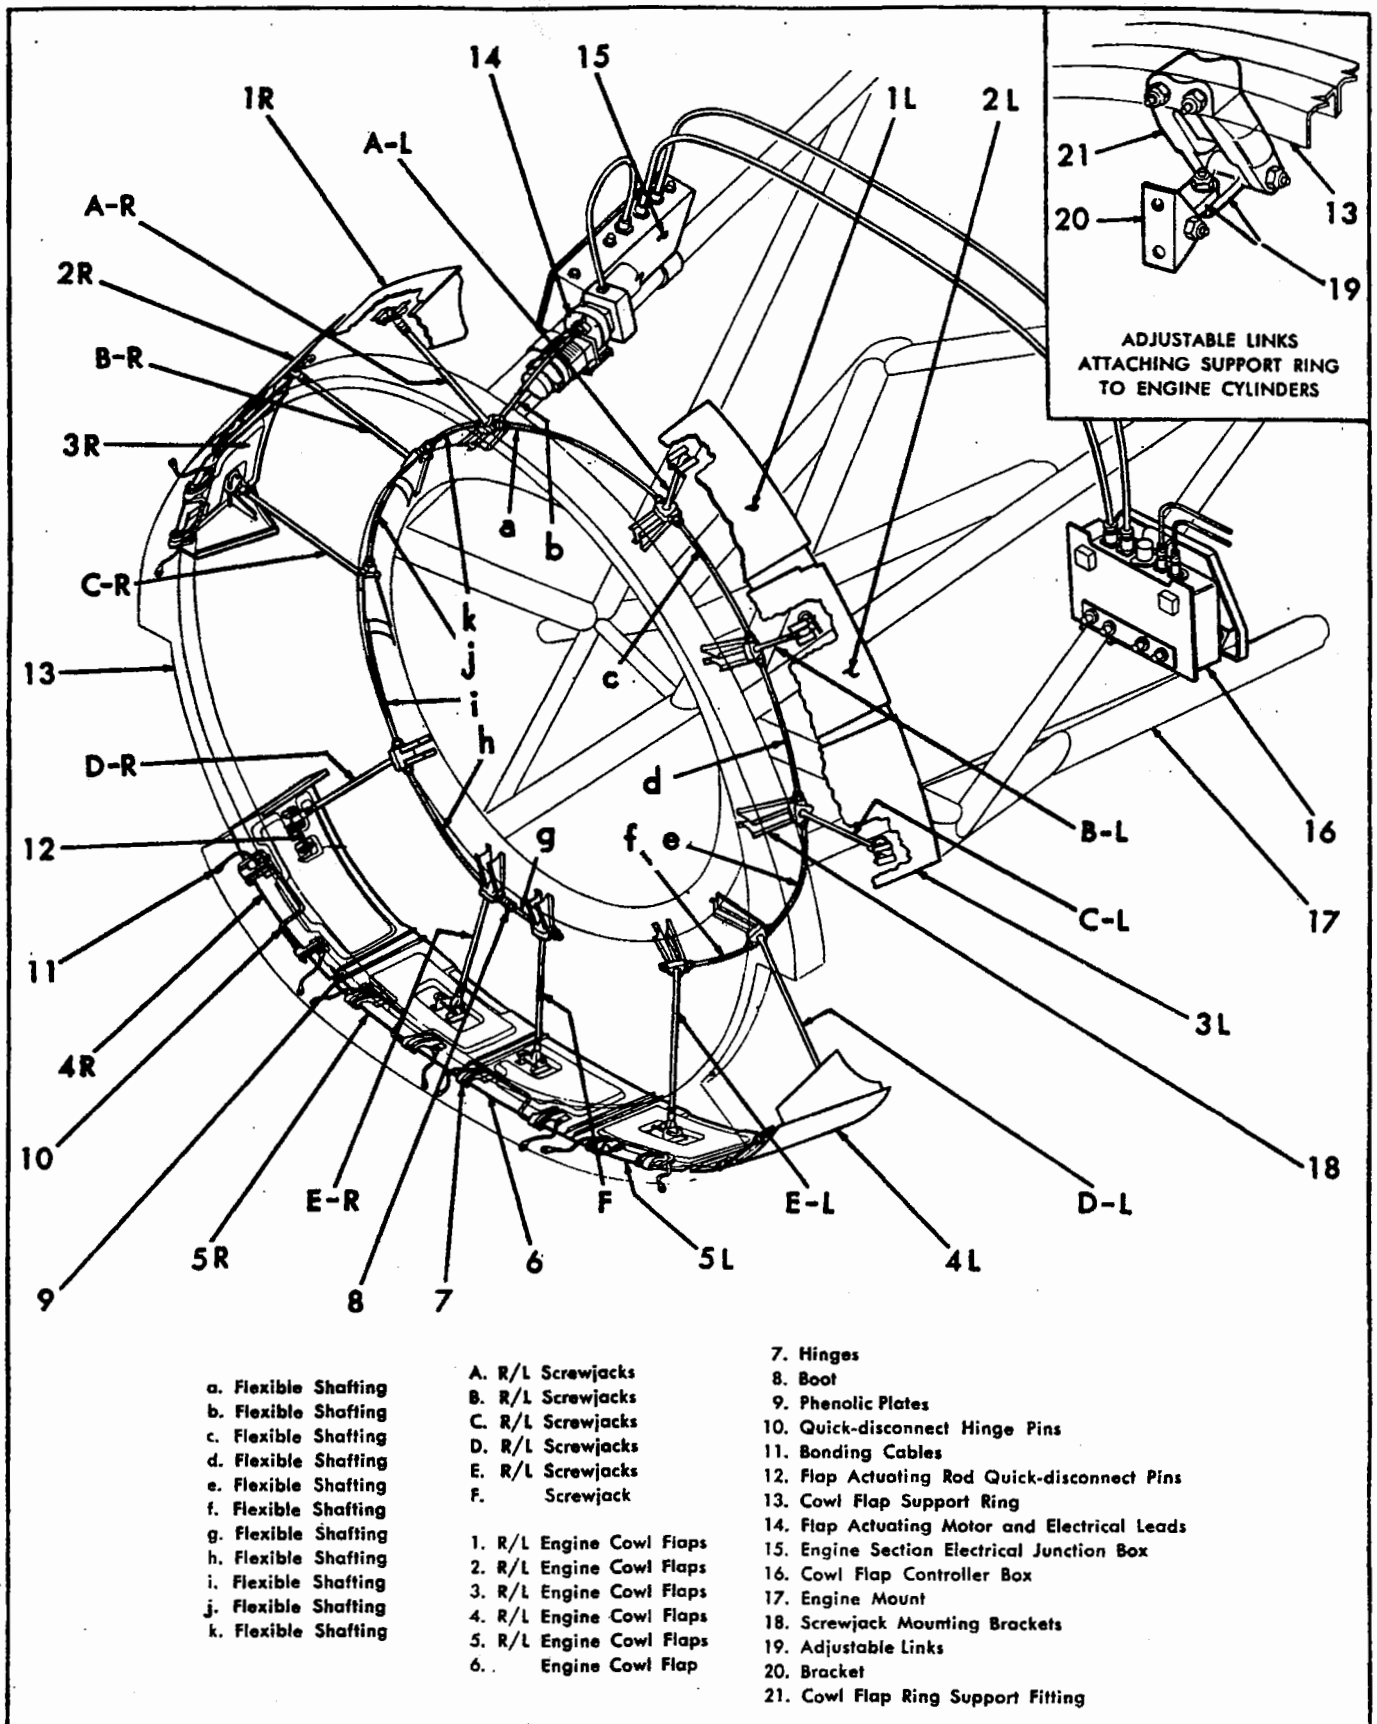

Figure 4-60. Cowl Flaps Actuating Mechanism.
4-459. DESCRIPTION. (See figure 4-60.) The engine cowl flap installation consists of eleven movable flaps extending about the engine just forward of the diaphragm, actuated by means of telescoping rods driven by screwjacks through flexible shafting and a linear actuator. To improve visibility, a section of the accessory
4-463. REMOVING. (See figure 4-60.)
4-466. **DESCRIPTION.** (See figure 4-60.) The cowl flaps are operated electrically, opening or closing automatically or by manual selection. A cowl flap operating switch located in the cockpit on the left hand control panel, inboard of the oil cooler doors switch, has four positions, "AUTOMATIC", "OFF", "OPEN" and "CLOSE". When the switch is in the "AUTOMATIC" position, the flaps will start to open at 248° C (478° F) (or at 232° C (450° F) when engine rpm is governed at 2300 rpm and below). Thermocouples in numbers two and four engine cylinder heads are connected to a controller box (16) manufactured by the Bristol Co. (their drawing number 32C, Sheet 32D369) located on the left hand side of the engine mount at power plant station 116.75. The controller box is sensitive to the hotter of the two thermocouples and actuates the cowl flap motor to open the flaps whenever the temperatures of either cylinder head (numbers two or four) exceeds the above noted temperatures. If the temperatures are below those noted, the flaps will close. The cowl flap actuating motor (14) is manufactured by Lear, Inc., their model number Lear D12A or DD-12-52P (24 volt) their drawing number 159-BC. It is connected to the flap screwjacks by flexible shafting. For a description of the principles of operation of the motor (or linear actuator) which is similar to that used for trim tab actuation, see paragraph 4-138. In addition to this automatic feature, a microswitch, located on the left hand landing gear lower scissor, overrides the automatic control and opens the flaps when the airplane is on the ground. The override microswitch is effective only when the switch in the cockpit is in the "AUTOMATIC" position. For further details on the electrical system, see paragraph 5-79.
4-468. It should be noted that the flexible shafts are not of constant length nor do the screwjacks have a constant stroke. Therefore in removal, note should be made of the location of each screwjack and attached flexible shaft in order that each will be replaced in the position from which it was removed. The following table gives the stroke of each screwjack and lengths of each flexible shaft; see figure 4-60 for location of each unit.
4-470. REMOVING. (See figure 4-60.)